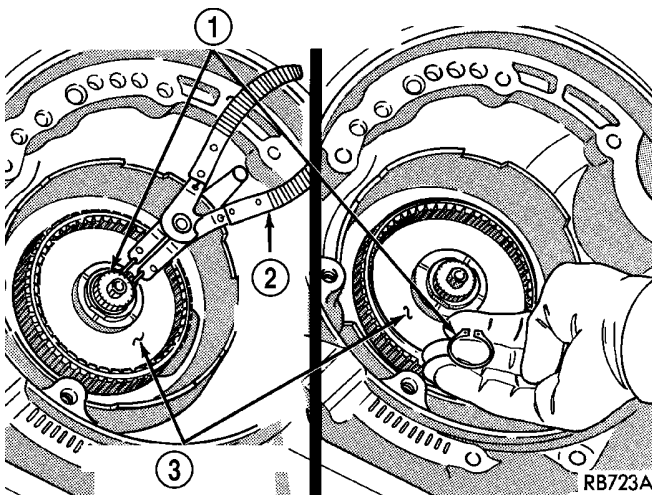

Fig. 53 Front Planetary Gear Snap Ring
(11) Install front planetary gear snap ring (Fig. 53).